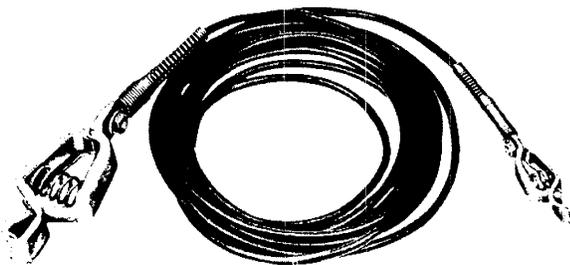

Fig. 6 — B Grounding Cord
- The B grounding cord is a 15-foot, 18-gauge, single-conductor cord with clips at both ends (see Fig. 6).